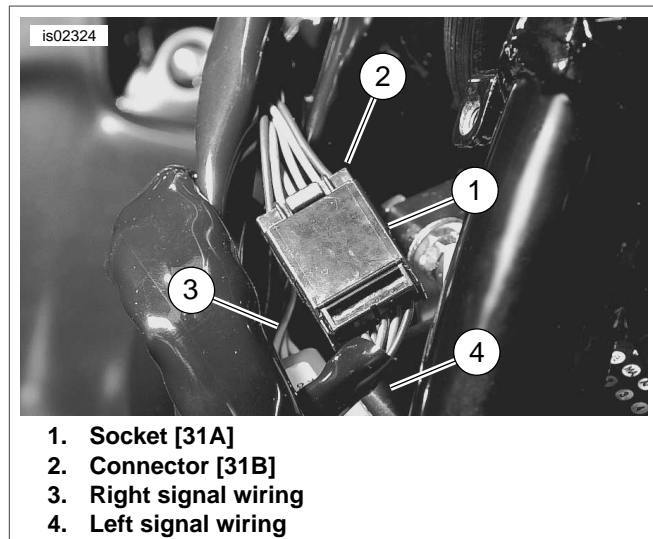

Figure 4. Remove Turn Signal Connector 31 (2004 models)
- b. **For 2004 and later models**, see Figure 4. In the left side frame, locate turn signal connector (2) [31B] and disconnect from socket (1) [31A]. Note left and right turn signal wire locations. Follow instructions in Service Manual under Multilock Electrical Connectors (Socket Terminal Removal/Installation) and remove left (3) and right (4) front turn signal socket terminals from connector.